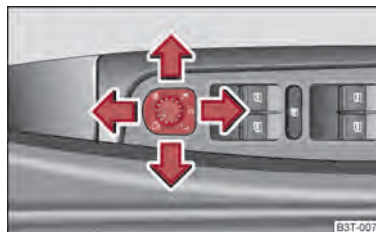

Fig. 55 Inner part of door: Rotary knob
- Turn the rotary knob to position **M** ⇒ fig. 55.
When the rotary knob is in position **R** ⇒ fig. 55 and the reverse gear is engaged, the surface of the mirror tilts down slightly. This provides an aid in seeing the kerb of the pavement when parking the car.